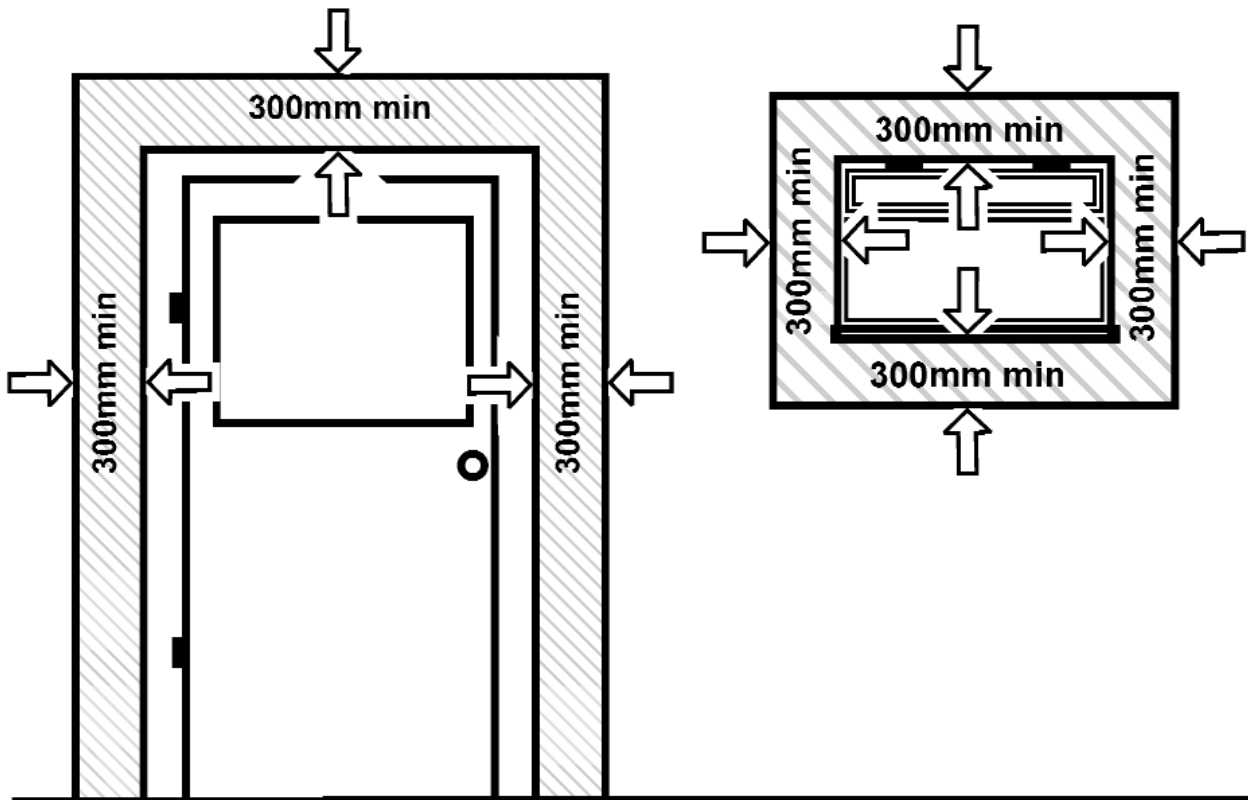

Figure 6.
*In addition, the terminal should not be nearer than 300mm to an opening in the building fabric formed for the purpose of accommodating a built-in element such as a window frame or door frame (See figure 6).